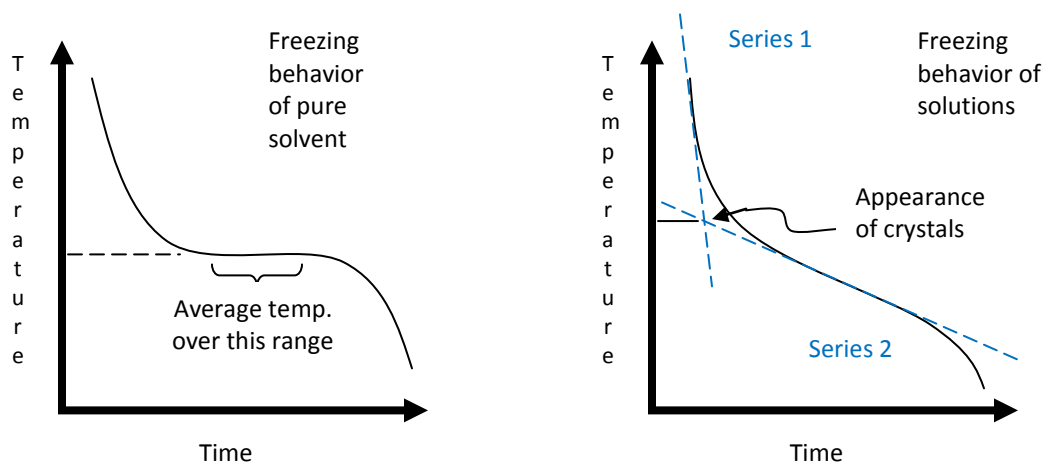

Figure 1. Comparison of freezing behavior of pure solvents and solutions.
4. When you are ready to begin data collection, click on the green "Collect" button. Quickly lower the test tube into the cold water bath. Continuously stir the contents of the test tube with an up/down motion. Make sure the probe remains in the liquid and that it does not come into contact with the walls of the test tube. Stir as long and consistently as possible, allowing the data collection to continue until the temperature levels off or a long, gradual slope is obtained (see Figure 1 in Data Analysis).
As the pure solvent cools, its temperature drops. This is illustrated in the graph to the left in Figure 1. During the conversion of liquid to solid, the temperature remains relatively constant and a plateau in the cooling curve is observed. The average temperature of the plateau is the freezing point of the pure solvent.
graph to the right in Figure 1. Since the temperature probe is unable to respond instantly to temperature changes, the thermometer records a gradual change in temperature instead of the abrupt change that should be observed at the instant crystals begin to form. Consequently, the graph is rounded in the vicinity of the appearance of crystals. To compensate for the slow response of the thermometer, the solution's freezing point is determined graphically. The freezing point of the solution is found at the intersection of two "straight-line" series of the cooling curve: the first includes data obtained as the solution cools and approaches the freezing point and the second includes data obtained as the solution solidifies.